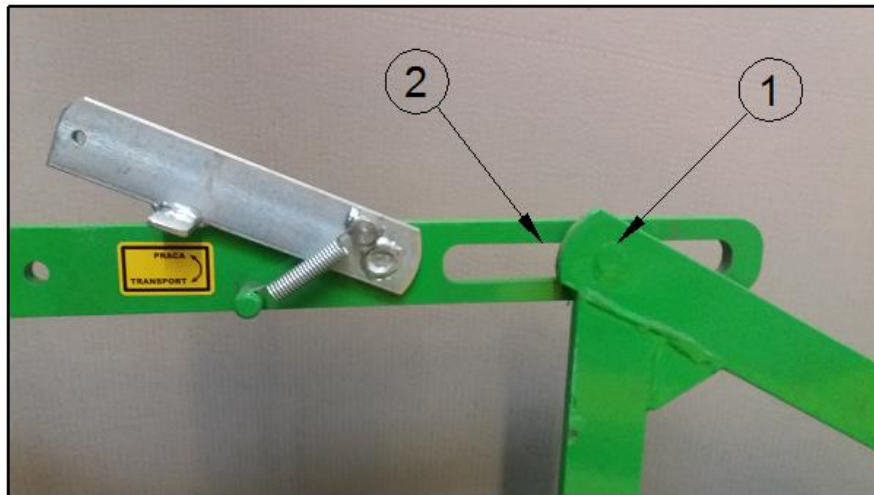

Figure 17 Proper positioning of the mower
- 3) Unscrew the bolts (Fig. 17, item 1) and remove the sliding disc (Fig. 17, item 5)
- 4) Unscrew the bolts (Fig. 17, item 3) fixing the resistance disc (Fig. 17, item 2) and remove the disc.
- 5) Adjust the cutting height (Fig. 17, item 4 - spacer rings),